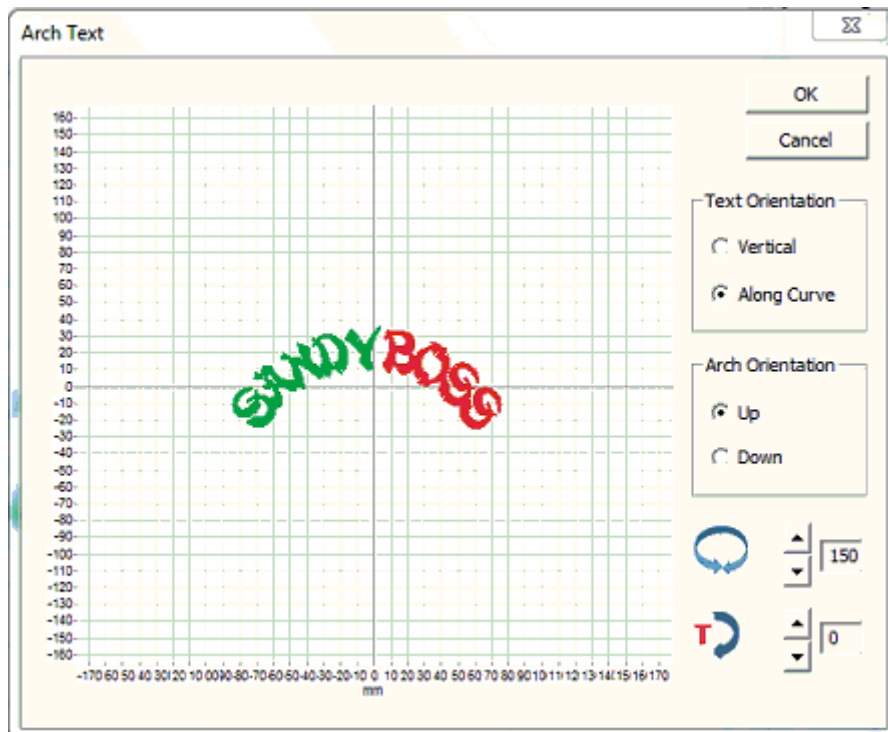

Figure 1 The "Arch Text" dialog.
Use this Tools menu command to open a dialog (see Figure 1) for placing individual letters (text) on an arch. The letters can arise either from merging embroidery letters (alphabets) into **SewWhat-Pro** or from letters that have been created in the **SewWhat-Pro** lettering dialog. Note that the grid used in the main workspace is imported into arching workspace.
2. Click the Arch toolbar button (or the associated menu item). The arching dialog in Fig. 1 will open with the selected text displayed.
1. You can adjust the **curvature** of the arch by clicking the spin-control next to the rotation icon (the two-headed arrow in Fig. 1 displaying the value 150 degrees). Clicking on the up-arrow will increase this value and lead to a more circular arch; clicking the down-arrow will decrease this value leading to a "flatter" arch.
2. You can position the lettering *on* the arch by clicking the lower spin-control next to the "text rotation" icon (with the red "T" in Fig. 1, displaying 0 degrees). A value of "0" in this case means that the lettering is arranged symmetrically around the vertical axis. Increasing (or decreasing) this value will move *all* the letters along the arch by the indicated number of degrees.